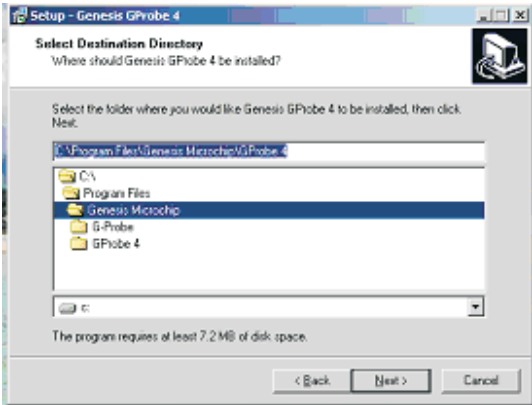

Fig.4
- step 4.Double click the Gprobe4.5.0.5.exe icon to install the application as shown Fig.4